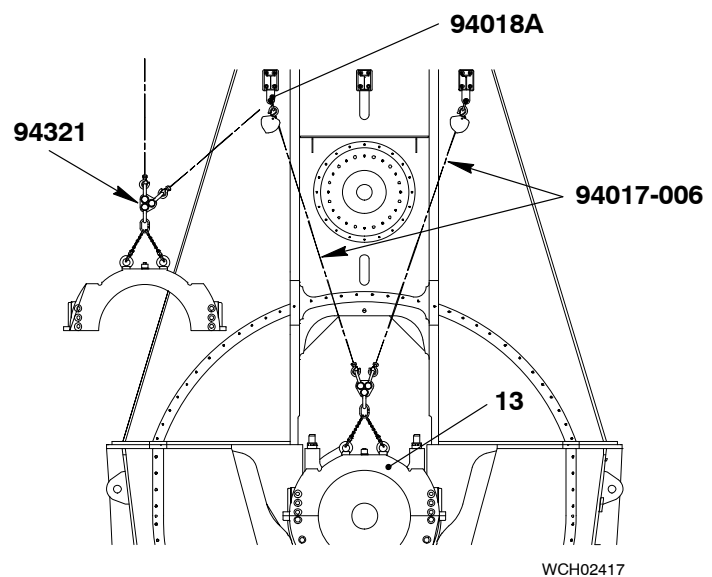

Fig. 3
- 11) Install the two shackles (94018A, Fig. 3) to the column.
- 3) Attach the plate (94321, Fig. 3) to the axial damper.